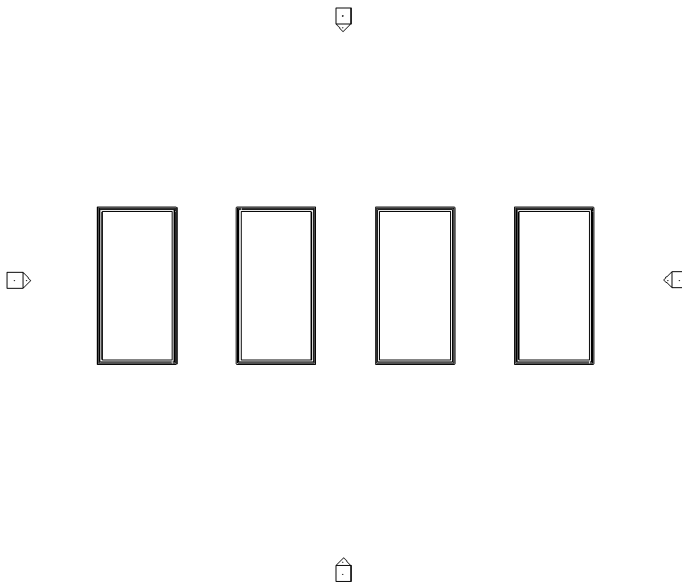

FIGURE 6-3.2 Four buildings
6. Drag a window around the walls to select them. Then use the **Array** command to set up four buildings **35'-0" O.C.** (Figure 6-3.2). See the *Array Tip* below.